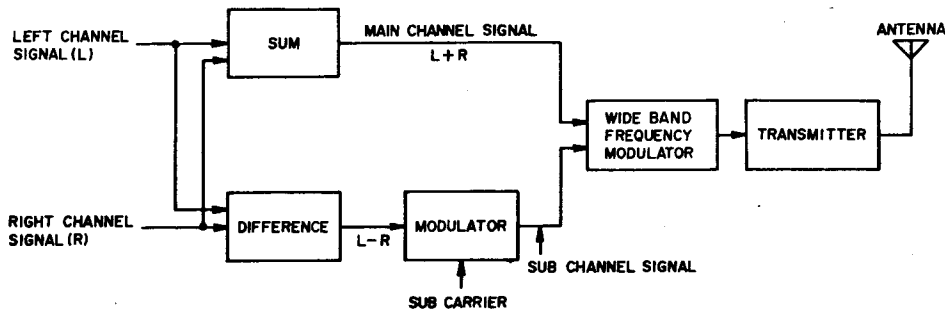

Fig. 10 FM Broadcasting System Diagram
As shown in Fig. 10, for FM broadcasts, the sum signal (L+R) consists of left signal (L) and right signal (R) and the audio frequency band of this signal in its original form is frequency modulated.